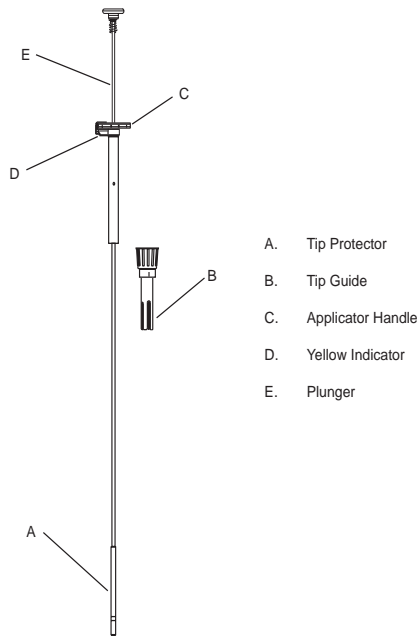

Figure 1 – Applicator
- Maintain correct alignment of the yellow indicator key (D in Figure 1) with the red arrow of the biopsy probe when dispensing pellets.
Refer to Figure 1 for Applicator diagram.